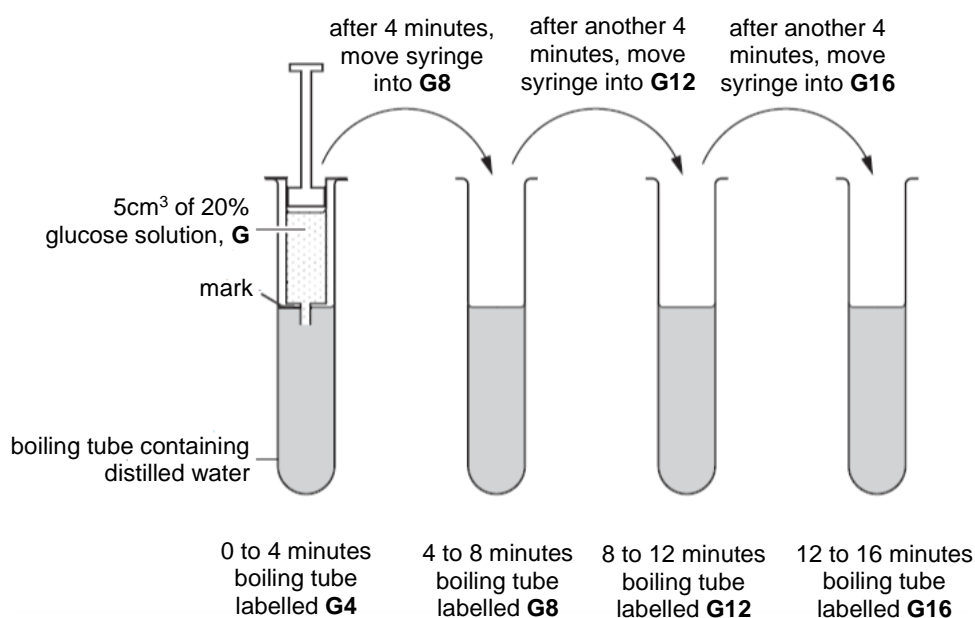

Fig. 1.2
Step 6 Put the syringe into the first boiling tube, **G4**, as shown in Fig. 1.2. The nozzle of the syringe must be below the surface of the distilled water. Start the stopwatch.
Step 8 Repeat this process with each of the two remaining boiling tubes, **G12** and **G16**, using the timings indicated in Fig. 1.2. Remove the syringe from the last boiling tube, **G16**, at 16 minutes.
Each time, the nozzle of the syringe must be below the surface of the distilled water. Refer to Fig. 1.2 for the overall setup for the experiment.